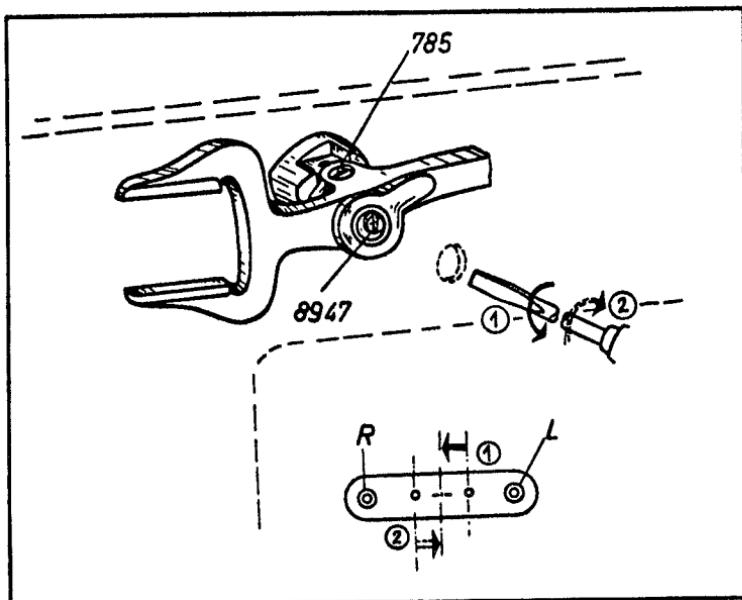

Fig. 4-31. Adjusting the needle for zig-zag stitching on Models 230 and 332.
proceed as described in the previous section, then set the needle position lever in the center notch, place a piece of cardboard under the needle, and let the needle stitch into it just lightly. Flick the zig-zag button to 4 and turn the balance wheel back and forth. Let the needle, on its right and left throws, stitch lightly into the cardboard again. In case the interspace between the needle punctures differ, adjust at the eccentric stud 8947 (Fig. 4-31) near the fork of the needle bar frame pitman. To turn the stud as may be required, loosen set screw (785) which can be reached from above and insert the screwdriver through the hole at the back of the arm. The direction in which the stud has to be turned is determined by the position of the center puncture in relation to the outer puncture. Always turn the eccentric stud in the direction in which the center puncture has to be moved in order to center it between the outer punctures R and L (Fig. 4-31). The needle hole is shown in the illustration as seen from the back of the machine. Tighten the set screw lightly—*not tightly*.